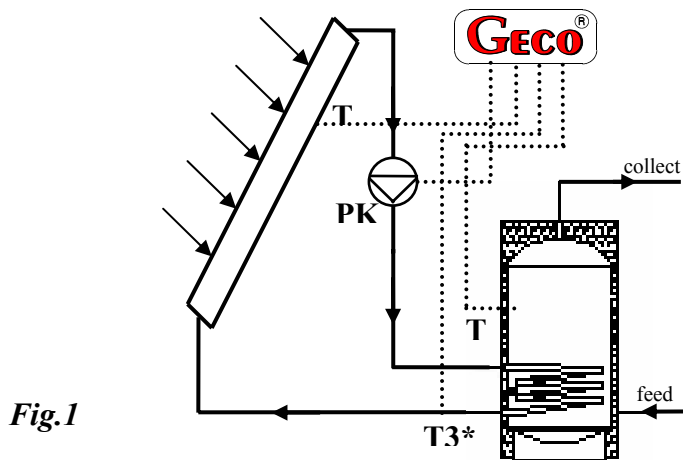

Fig.1
- '1': basic version with one collector (fig.1),